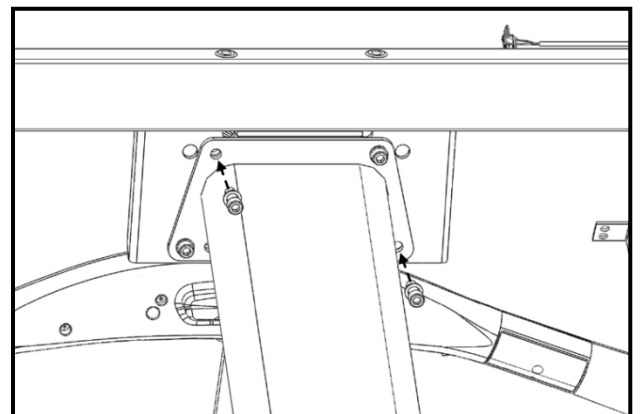

Fig. 12
- Loosely thread four socket head cap screws (Fig. 12) with washers through the neck mast mount plate on to the console frame mount plate.